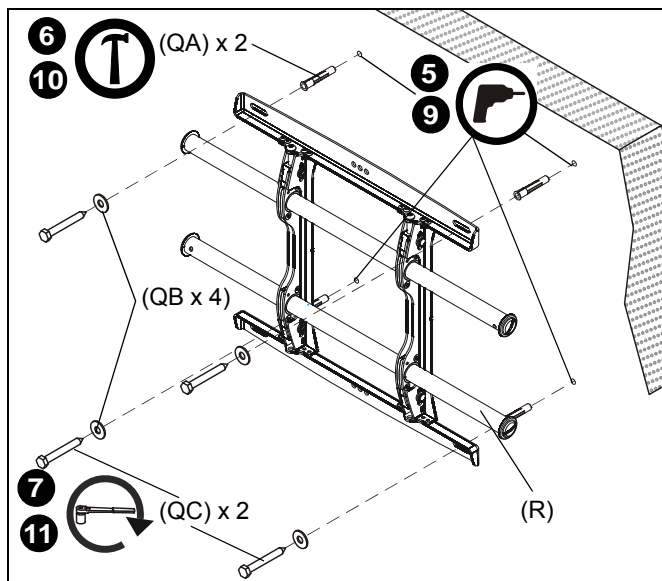

Figure 8
2. Line up the notches on mount (R) with center of screen marking to determine vertical center. (See Figure 8)
3. Measure up 7-1/2" (190.5mm) from the center point to mark location of the upper mounting slots. (See Figure 8)
4. Using a level, mark the wall through both upper mounting slots. (See Figure 8)
6. Install an anchor (QA) into each pilot hole using a hammer.
7. Use two 5/16 x 2-1/2" lag bolts (QC) and two 5/16" flat washers (QB) to attach top of mount to anchors in wall.
8. Mark the attachment points for the lower mounting slots. (See Figure 8)
9. Drill one 3/8" pilot hole at each marking for lower mounting holes. (See Figure 8)
10. Install an anchor (QA) into each pilot hole using a hammer.
11. Use two 5/16 x 2-1/2" lag bolts (QC) and two 5/16" flat washers (QB) to attach the mount to the wall through the lower mounting holes. (See Figure 8)